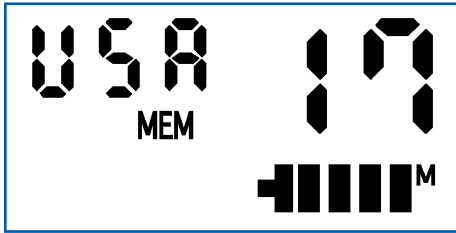

Fig. 13e: One Memorized Channel Display
- If there is only one channel in scan memory, the radio will sound the error tone and change to that channel. (Fig. 13e)